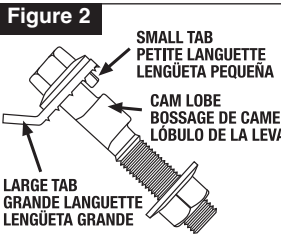

Figure 2
5. Line up small tab with cam on bolt. **Install bolt with large tab out toward wheel for positive camber or in away from wheel for negative camber (See Figures 2 and 3)**. Install EZCam bolt into strut hole making sure the small tab on the washer is in the hole and the washer is flush on the strut. Add lock nut, snug, but do not tighten.